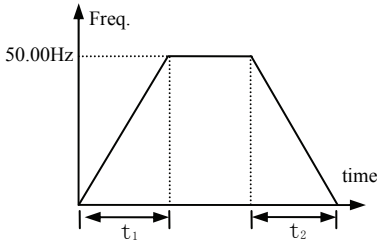

Fig. 7-1 Line acc/dece
**0:Line acc/dece mode.** Output frequency raises or decline as the constant slope, as fig.7-1.